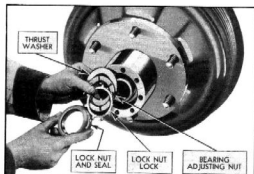

Fig. 19—Installing Thrust Washer, Adjusting Nut, Lock Nut and Lock Nut Lock
6. Install the thrust washer and adjusting nut, Fig. 19.